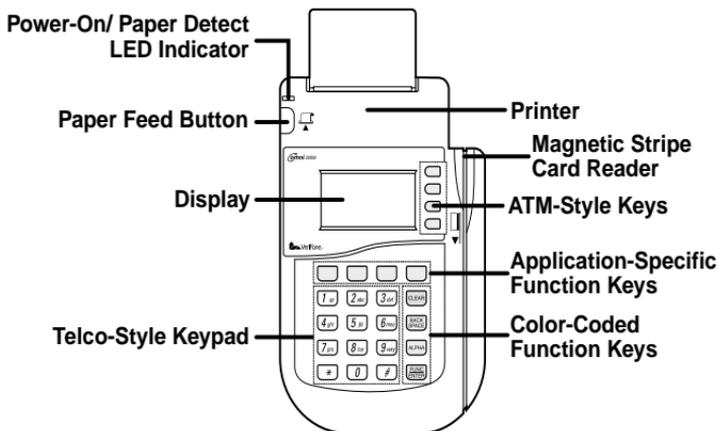

Figure 5 Features of the Omni 3210 Terminal
Before you continue the installation, please take a moment to note the important features of the Omni 3210, as shown in Figure 5 below.
- **24 keys**, arranged in groups (see Figure 5):